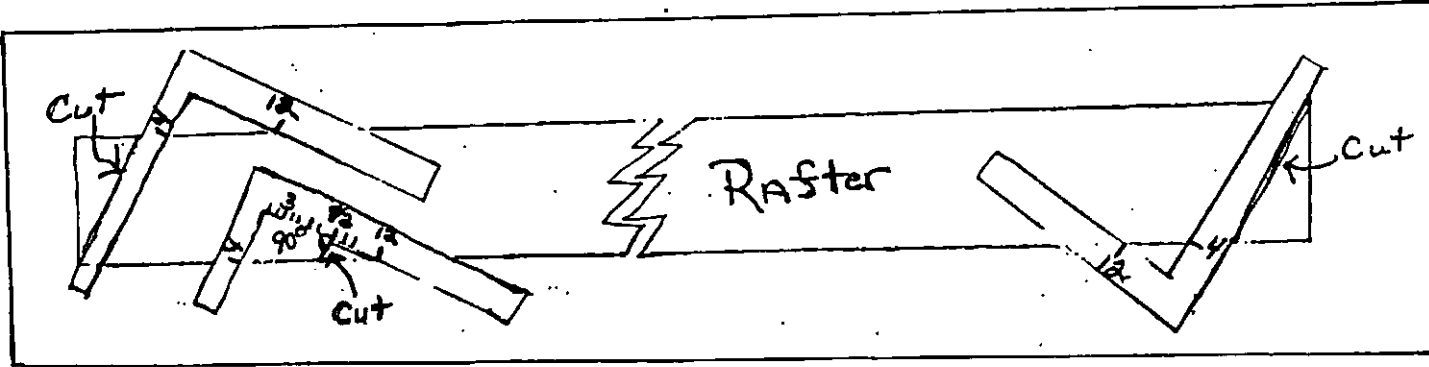

FIGURE 46
- Step 6A. Using a framing square, mark the rafter for the desired pitch (here using 4" rise/12" run as the example). When using a framing square, use the outside scales on both arms or inside scales on both arms but never mix the two. (See Fig. 46)